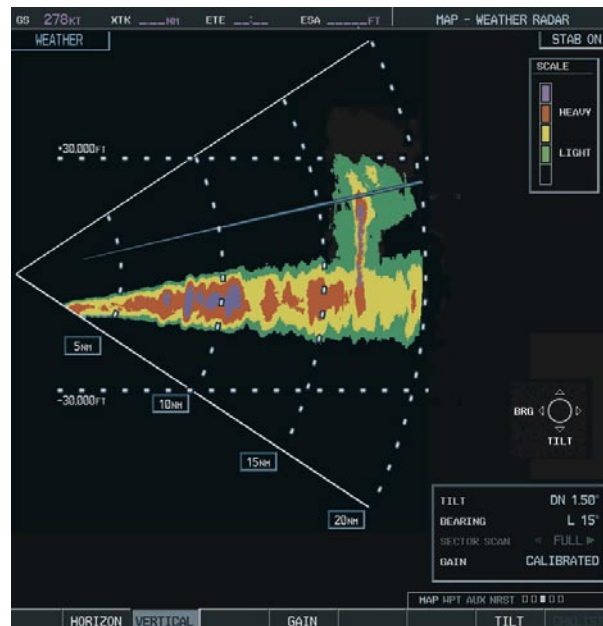

Figure 6-49 Vertical Scan Display
- 3) Select the **VERTICAL** Softkey. A vertical slice of the selected area will now be displayed (Figure 6-49).